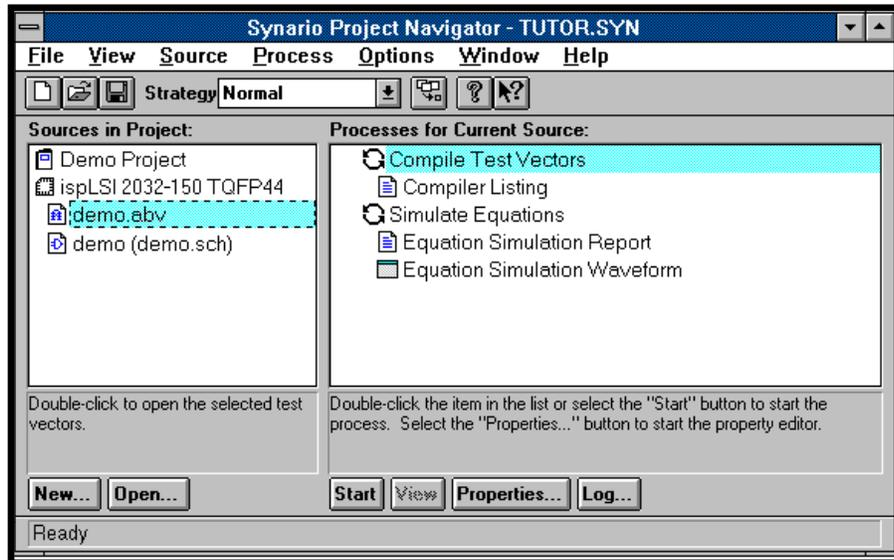

Figure 1-12. Synario Project Navigator
30. When finished, select **File** ⇒ **Save** from the Synario Text Editor menu bar to save your test vector file. Select **File** ⇒ **Exit**. Synario returns you to the Project Navigator, which appears as in Figure 1-12.